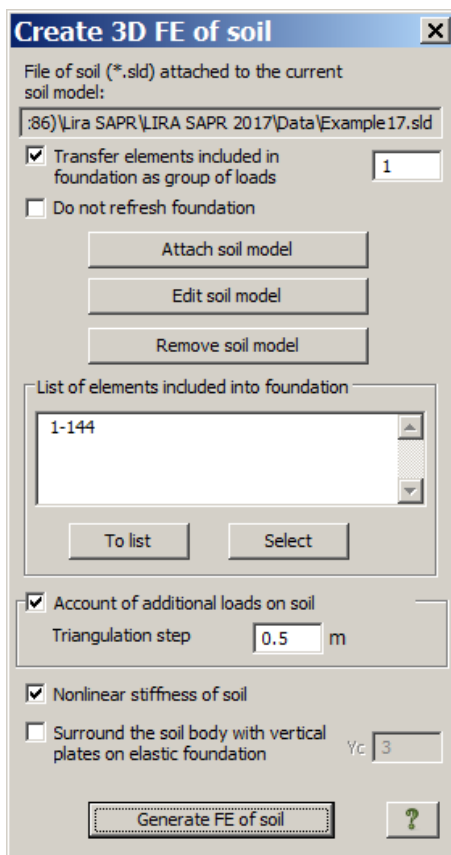

Figure 17.11. Create 3D FE of soil dialog box
- ⇒ In the **Create 3D FE of soil** dialog box (see Fig.17.11), define the following parameters: